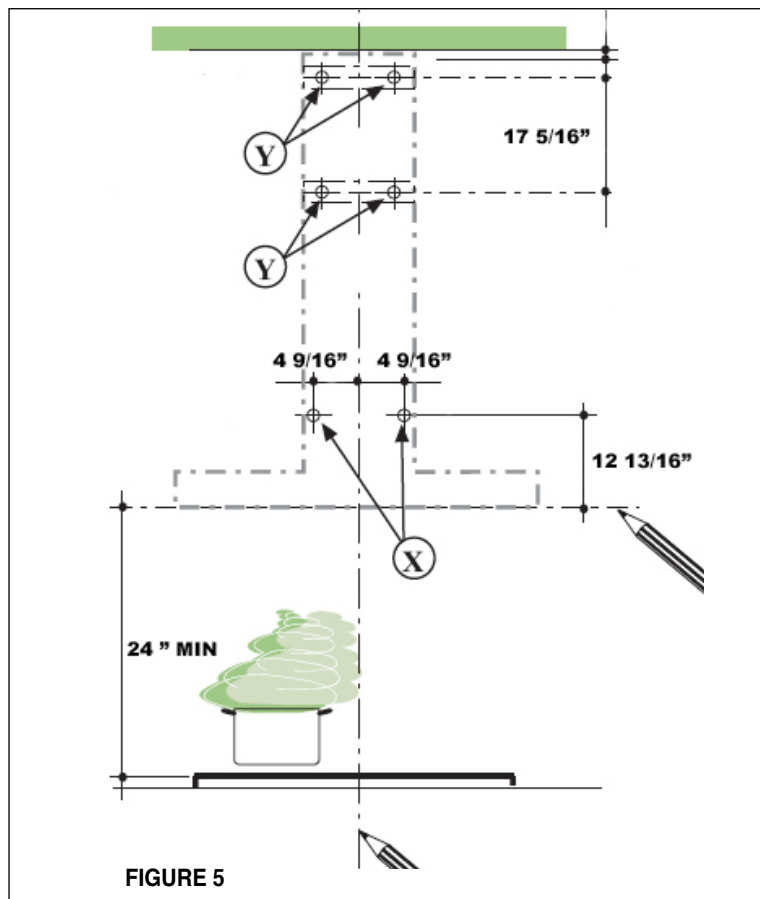
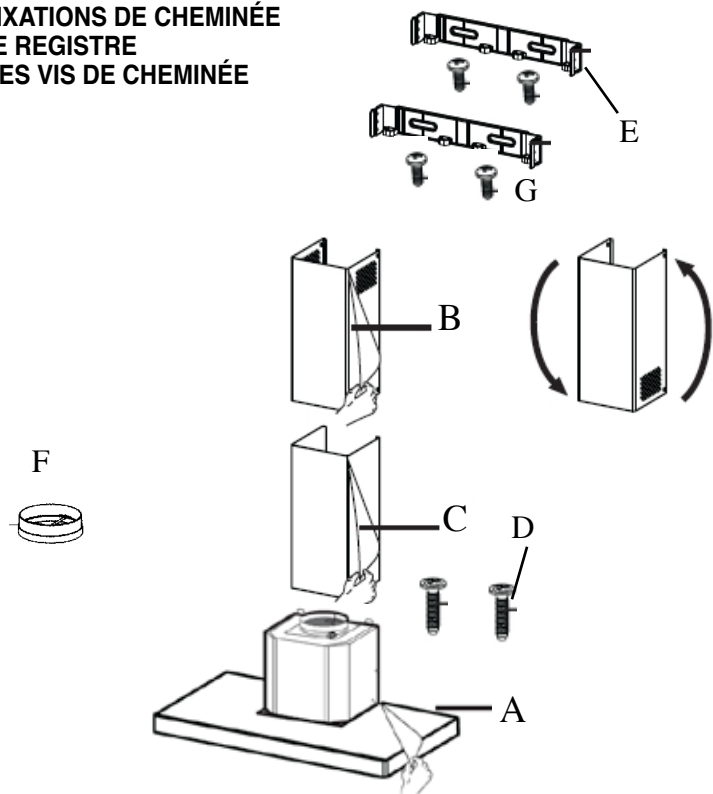

FIGURE 5
FIGURE 1
4. The chimney mounts by two brackets (E in FIGURE 1). Note the position of the brackets. The top bracket should be installed about 1/8" away from the ceiling. The bottom bracket must be installed at the bottom point of the upper chimney sleeve. See "Y" in FIGURE 5, and use 2 screws (G in FIGURE 1) to attach each of the brackets to the wall. Use the center line on the wall as the middle point for the chimney brackets.
5. For the most secure installation, the MOUNTING SCREWS (D in FIGURE 1) which mount the CANOPY SECTION (A in FIGURE 1) should be installed into wood. Mark the wall along the horizontal line 4 9/16" in from the center line on either side (as indicated in X - FIGURE 5) and install the MOUNTING SCREWS into the wall leaving about 1/4" gap between the wall and the head of the screw.
1. Remove the unit from the carton and place on a flat surface for assembly. Cover the surface to prevent accidental damage. Remove all parts including the mounting hardware before discarding the carton. Remove the Protective covering from the chimneys and rangehood canopy section (**A, B, C in FIGURE 1**).
8. See **FIGURE 1 for reference**, The Upper chimney cover can be installed with the side vent holes on the top towards the ceiling, or flip the chimney and hide the holes under the lower chimney. Install the UPPER CHIMNEY COVER (**B in FIGURE 1**) by slightly widening the two sides and hooking them behind the CHIMNEY MOUNTING BRACKETS (E). Secure the sides to the CHIMNEY MOUNTING BRACKETS with the 4 CHIMNEY SCREWS (G). Install the LOWER CHIMNEY COVER (C) by slightly widening the two sides of the LOWER CHIMNEY COVER and hooking them between the UPPER CHIMNEY COVER and the wall making sure that it fits snugly. Secure the LOWER CHIMNEY COVER to the CANOPY SECTION (A) with 2 CHIMNEY SCREWS (G).
1. Retirer l'appareil de la boîte et le déposer sur une surface plane pour l'assemblage. Couvrir la surface pour éviter tout dommage. Retirer toutes les pièces incluant les ferrures avant de jeter la boîte. (A,B,C in FIGURE 1)